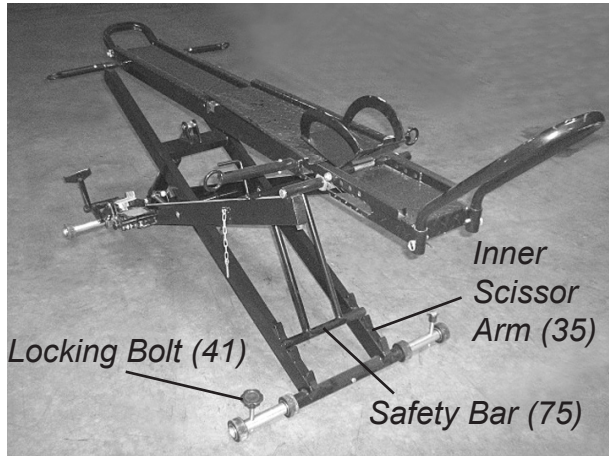

Figure 4
9. Before lifting any motorcycle, it must be securely fastened to the Lift using tie-down straps (not supplied) or other suitable method. Two Front Tie Down Brackets (13) and two Rear Tie Down Brackets (31) are built into the Lift for this purpose.
12. Before lifting the motorcycle, pull out the Safety Bar Lock Pin (40) to allow the Safety Bar (75) to rest on the Inner Scissor Arm (35).
13. To Lift the motorcycle, pump the Pump Pedal (56) repeatedly until the motorcycle is lifted to the desired height.
14. When the motorcycle is lifted, be sure that the Safety Bar (75) is slightly above one of the ramps of the Inner Scissor Arm (35).
15. Press the Load Pedal (69) until the Safety Bar (75) is fully engaged with the ramp of the Inner Scissor Arm (35). See Figure 4.